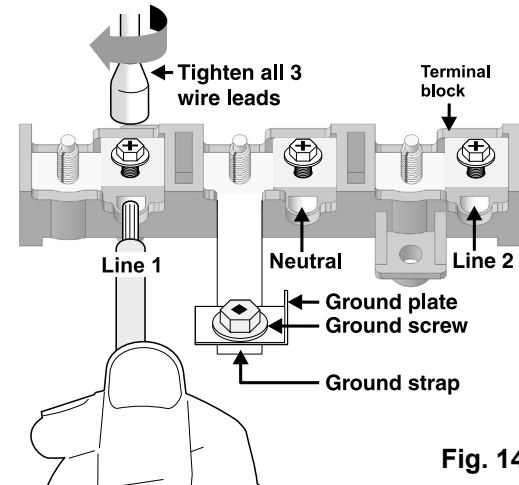

Fig. 14
2. (3 & 4 - Wire Permanent Connections) Strip insulation away from the ends of the permanent wiring for Line 1, Line 2, Neutral (also strip ground wire on 4-Wire Connections). Tighten all 3 wire leads to the terminal block (Follow wire locations shown in Fig. 14). **IMPORTANT NOTE: DO NOT LOOSEN** the factory installed nut connections which secure the range wiring to the terminal block. Electrical failure or loss of electrical connection may occur if these 3 nuts are loosened or removed. **NOTE: For 3-Wire Permanent Connections skip Steps 3 & 4 and continue with Step 5.**